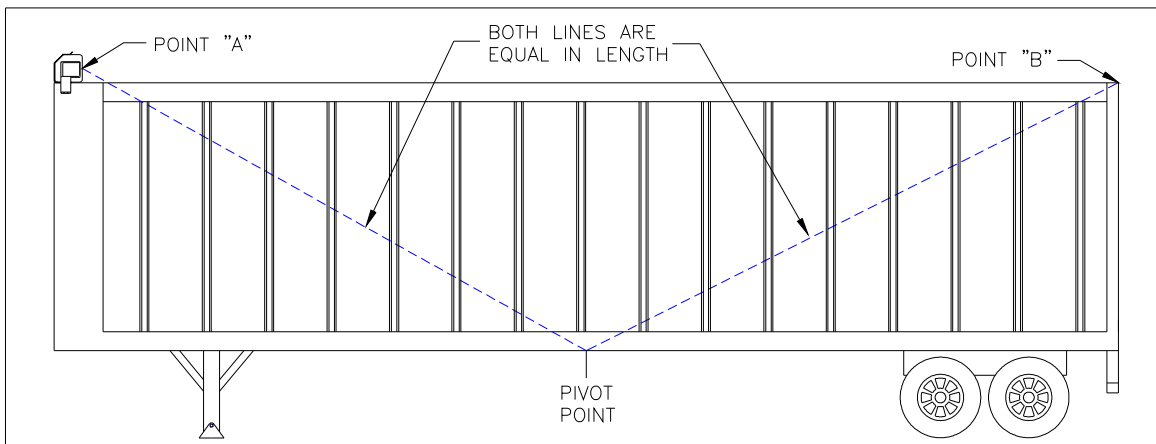

FIGURE 2
- 1) To find the pivot point, pull one tape measure from point "A" and a separate tape measure from point "B". Next, cross the tape measures at the bottom-middle of the trailer where the two measurements are equal. Mark the spot beneath where they cross. This is your pivot point. (See Figure 2)
- 1) Assemble the lower arm unit using the included pivot mount washers, torsion springs, bearings, and cotter pins as shown previously in figure 2.